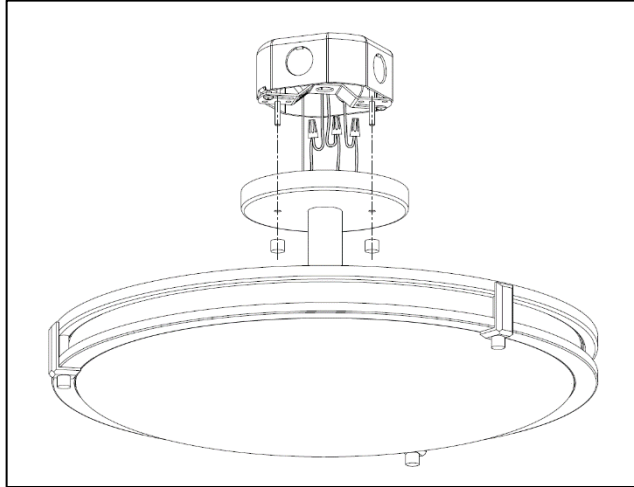

Figure 8
5. **Use Wire nuts to connect** :black fixture wire to the black power supply wire ; white fixture wire to the white power supply wire, and the bare copper ground wire from the fixture to the bare copper ground wire from the junction box. (If house wiring does not include a ground wire, consult your local electrical code for approved grounding methods).FOR PROPER CONNECTION, PLACE WIRENUT OVER WIRES, TWIST CLOCKWISE UNTIL TIGHT. (See Figure 8).